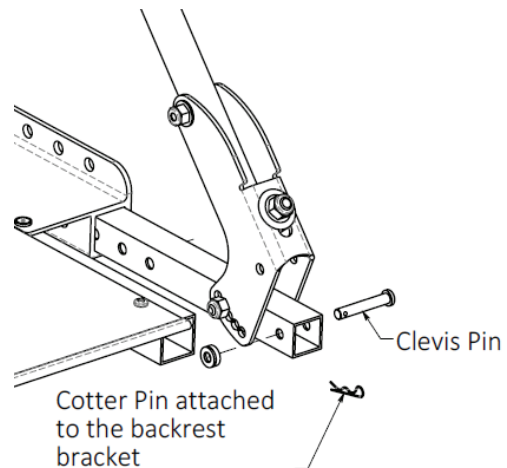

Figure 14.27: *Fold-down backrest*
2. Disengage the clevis pin by pulling out the cotter pin that is attached to the backrest bracket. (see Figure 14.27)